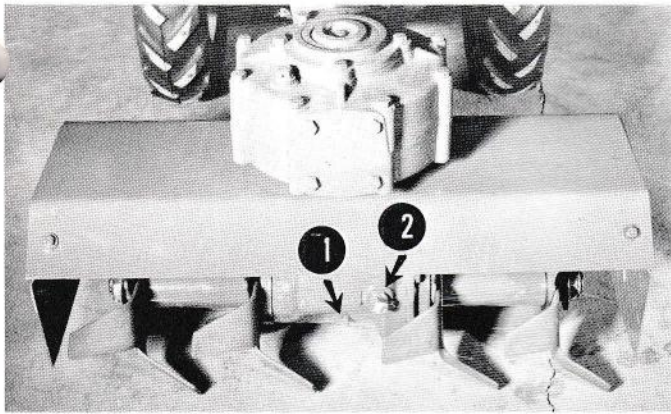

Figure 24
5. Rotate the Cultivator to the position shown in Figure 24. In this position the Tines will cut the same direction (clockwise) as the forward movement of the tractor.
Check the Cultivator Drive Assembly oil level every eight hours of operation by removing the Oil Level Plug, (1 in Figure 24). If oil runs out of the Oil Level Hole, the oil level is all right; if not, oil must be added.
To add oil, remove the Oil Filler Plug, (2 in Figure 24), and pour through the Oil Filler Hole until oil begins to run out of the Oil Level Hole. Replace both Plugs when proper oil level is reached.